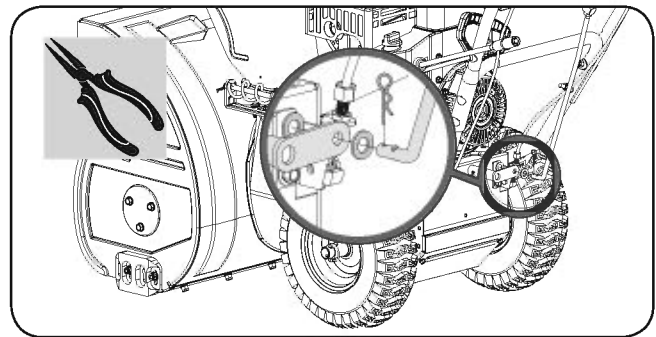

Figure 6c
3. Insert the shift rod with a flat washer into the shift arm. Secure with the other flat washer and clevis pin. (See **Figure 6c**)